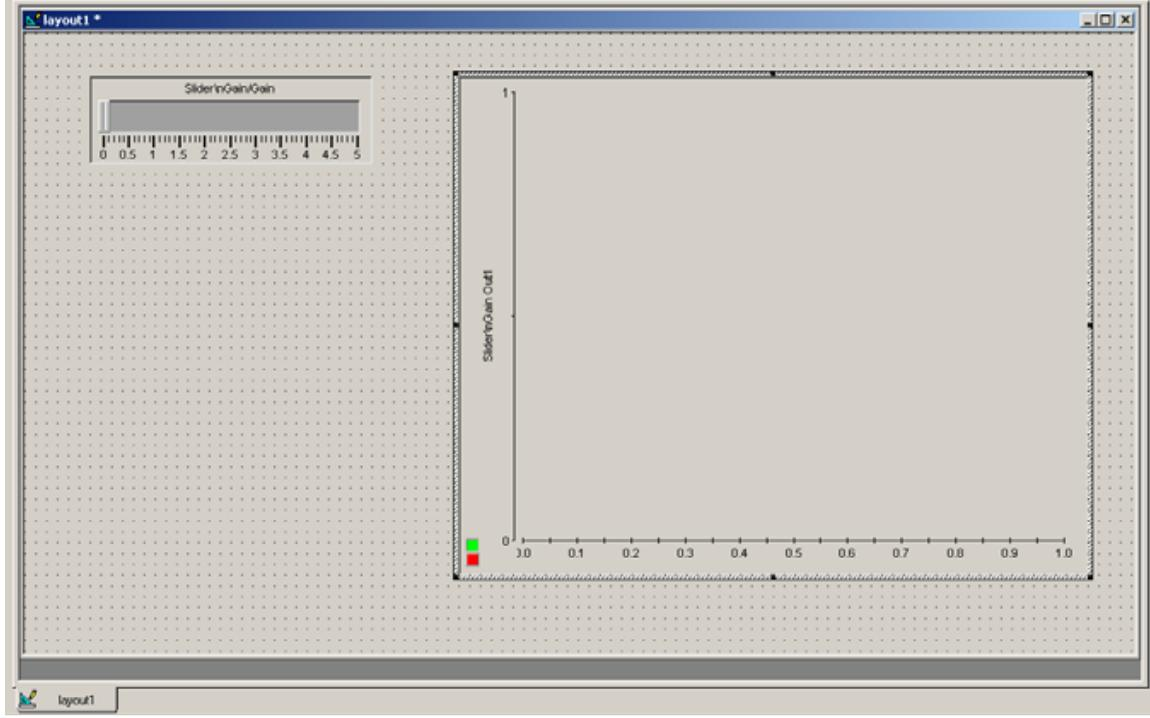

Figure 2.14: Drawing a Plotter for Signal Monitoring
2. When dragging the second signal, make sure that you release the mouse button above the first one, on the vertical axis. Otherwise, a new vertical axis will be drawn, and you will have less available space for visualize the waveforms. Now both signals are assigned to the plotter and will be displayed with different colors. The label on the vertical axis will show only the last signal dragged to the scope. You should have your layout as shown in Fig. 2.14